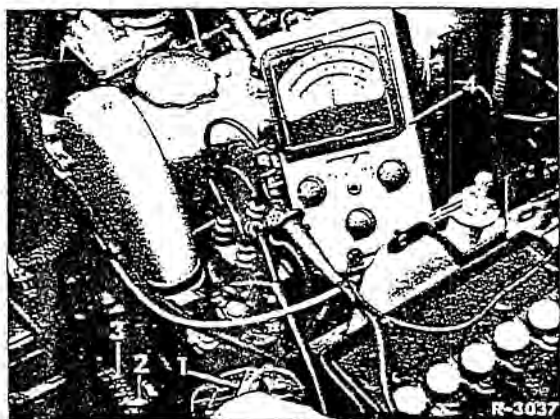

Fig. 00-7/1
1. The ignition must be set by means of a flash stroboscope to the exact value prescribed for a certain speed: disconnect the vacuum line from the distributor and check the ignition setting on cylinder no. 1 by means of revolution counter and flash stroboscope. Accelerate the engine to $n = 4500$ rpm and read off the value at the counterweight or the vibration damper (Fig. 00-7/1) (for adjustment value see Job No. 00-0). If necessary turn the distributor until the prescribed value is reached.